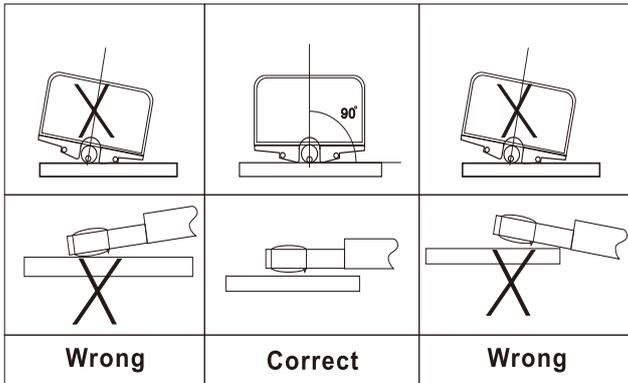

Fig.4-1
- G. Refer to Figure 4-1 and Figure 4-2 to place the instrument correctly, stably and reliably on the surface to be measured.